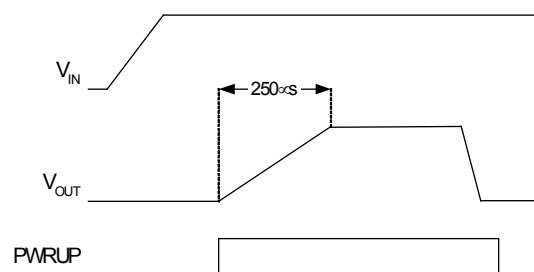

Figure 12. Soft-Start
When the FAN5617 is enabled, either by EN going high or on command from the TinyWire™ interface, the soft-start circuit linearly ramps VOUT to limit the switcher's inrush current (see Figure 12). When power is first applied, the default IC brightness control register (NBR) is set to maximum brightness (31). If EN is low at initial power-up, the IC remains in a low-power state until either EN goes HIGH or a non-0 brightness command is received. If EN goes from HIGH to LOW, the IC is reset to the low-power state until either a new brightness command is received or EN is driven HIGH.